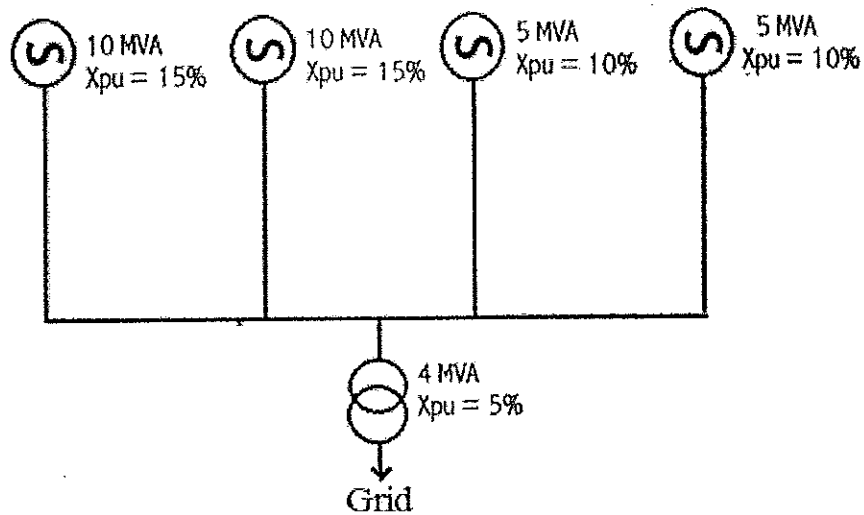

Figure Q5
- I. A power plant having four (4) generators is connected to the grid via 4 MVA, 12.5 kV/132 kV step up transformer as shown in figure Q5.